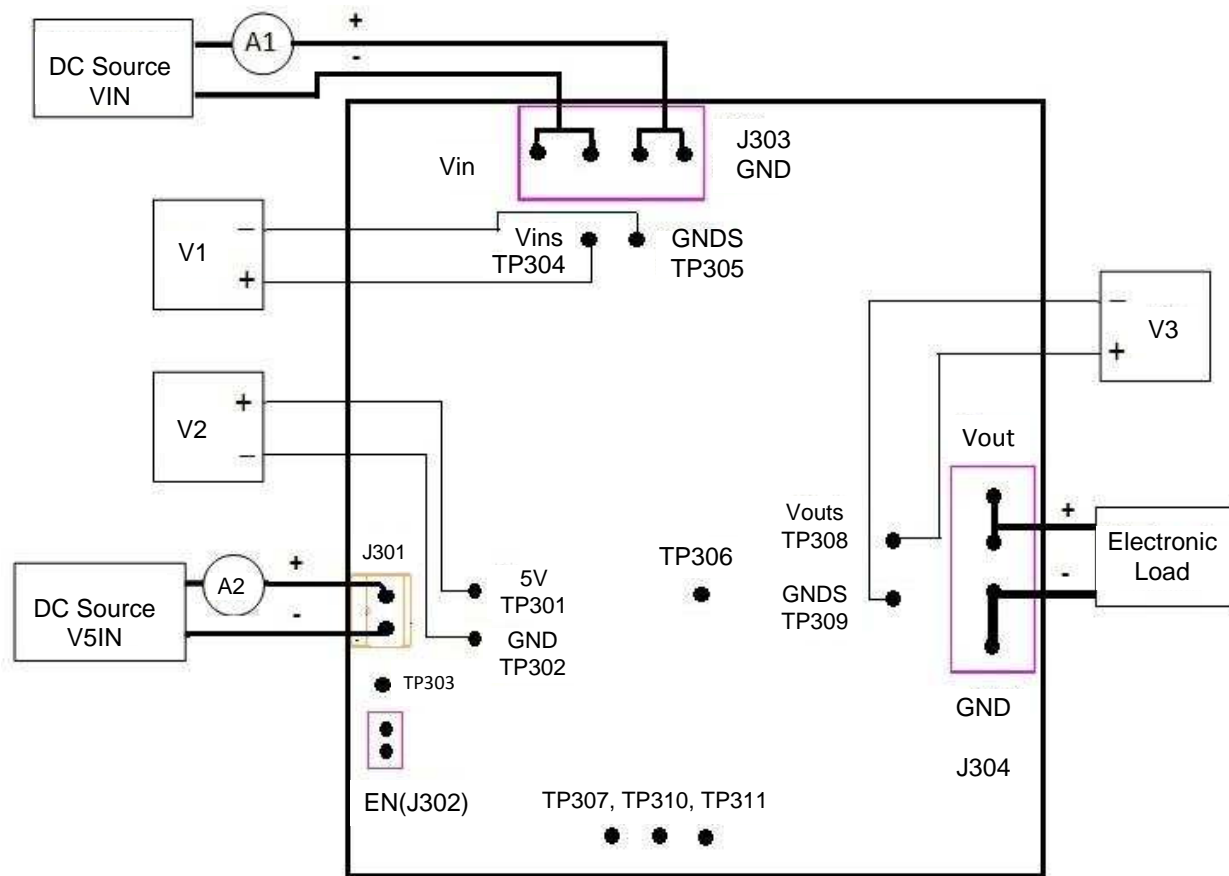

Figure 3. CSD87588NEVM-603 Recommended Test Setup
Voltage source VIN: The input voltage source VIN must be a 0-V to 20-V variable DC source capable of supplying 10 ADC. Connect VIN to J303 (as shown in Figure 3).
Voltage source V5VIN: The input voltage source V5VIN must be a 0-V to 5-V variable DC source capable of supplying 1 ADC. Connect V5VIN to J301 (as shown in Figure 3).
Figure 3 shows the recommended test setup to evaluate the CSD87588NEVM-603. Working at an ESD workstation, make sure that any wrist straps, bootstraps, or mats are connected. Reference the user-to-earth ground before power is applied to the EVM.
1. Prior to connecting the DC source VIN, TI recommends to limit the source current from VIN to 10-A maximum. Ensure that VIN is initially set to 0 V and connected (as shown in Figure 3).
2. Prior to connecting the DC source V5VIN, TI recommends to limit the source current from 5V to 0.5-A maximum. Ensure that V5VIN is initially set to 0 V and connected (as shown in Figure 3).
3. Connect a voltmeter, V1, at TP304 (Vins) and TP305 (GNDS) to measure VIN voltage, V2 at TP301 (5V), and TP302 (GND) to measure 5V voltage (as shown in Figure 3).